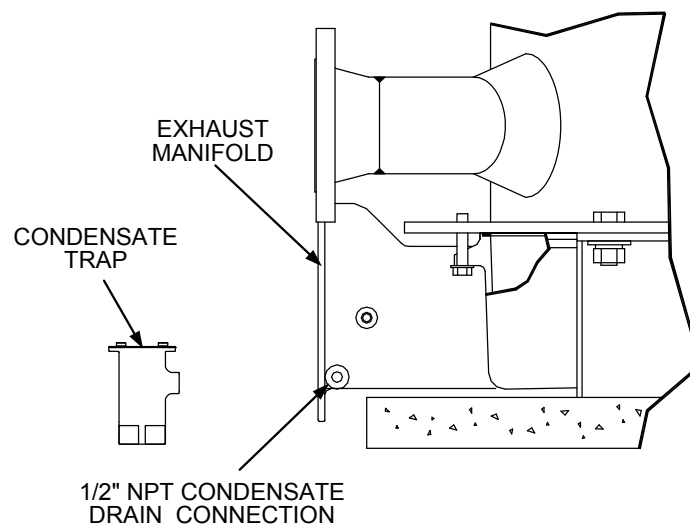

Figure 6. Benchmark 2.0LN Condensate Trap Location
8. Check the condensate drain opening on the manifold (Figure 6) to ensure it is clear of blockage.
11. Install the new O-ring, part no. 84017 provided in the kit and replace the condensate trap cover by tightening the four (4) thumb-screws.